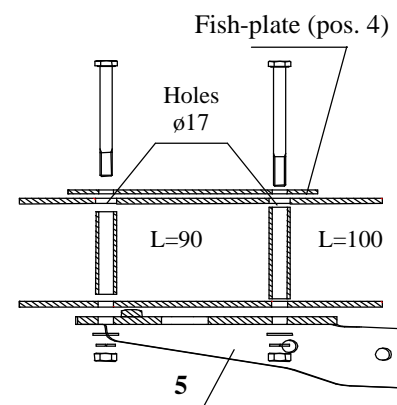

Fig. 2.
3. Put element (pos. 6) to the right chassis member (do it in such a way that a pin is compatible with a fabric holes and holes pos. C are compatible with a threaded holes. Fix it with bolts from the original towing eye.
4. Drill $\phi 10,5$ mm through holes (pos. A and B) of element pos. 6 to the inside part of the boot. Then enlarge this hole by a drill $\phi 17$ mm (do it only inside the boot). Next, slide a spacers L = 90 and 100 mm, as it shown a sketch, and fix it with bolts according to figure 2.
5. Position element (pos. 5) to the left chassis member (do it in such a way that a pin is compatible with a fabric holes), then position the element in such a way that its edge raze to an chassis member's edge (compare to the right side). Drill $\phi 10,5$ mm through the holes (pos. A and B) to the boot . Other activities like in point 5.
6. Slide main bar (pos. 1) between brackets (pos. 5 and 6 and fix it with M12x35mm bolts (pos. 10)
7. Position the ball of towbar (pos. 2) with socket plate (pos. 3) and fix with M12x75mm bolts (pos.9) from the towbar accessories.